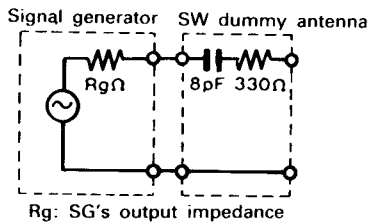

Fig. 10
2. SW dummy antenna shows Fig. 10